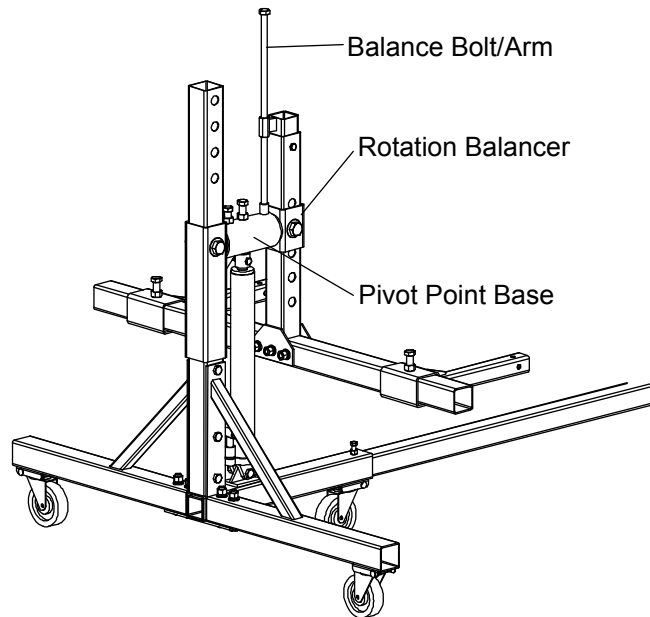

FIG. 5
15. Align the Rotation Balancer so the Balance Bolt/Arm fits into the welded cup located on top of the Pivot Point Base, Fig. 5. **NOTE:** This is what prevents you from turning while adjusting.